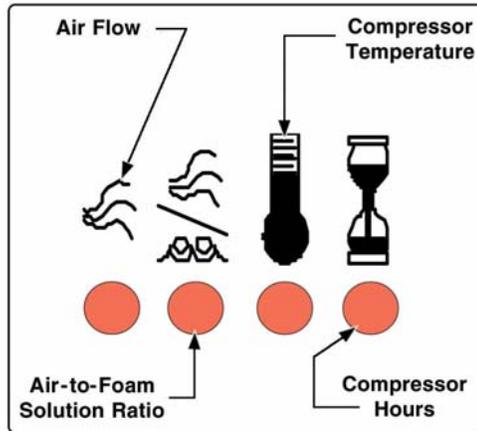

Figure 4-4: Sample, Display ICONS
However, the **i** button cycles through the four data informational displays for the compressor. Also see Figure 4-4: "Sample, Display ICONS" on page 34.
- **COMPRESSOR TEMPERATURE** - The compressor temperature display monitors the current temperature of the air compressor. (See Figure 4-4: 'Sample, Display ICONS.')
- **TOTAL COMPRESSOR HOURS** - The compressor run time display shows the current amount of time that the compressor has been in use. (See Figure 4-4: 'Sample, Display ICONS.')